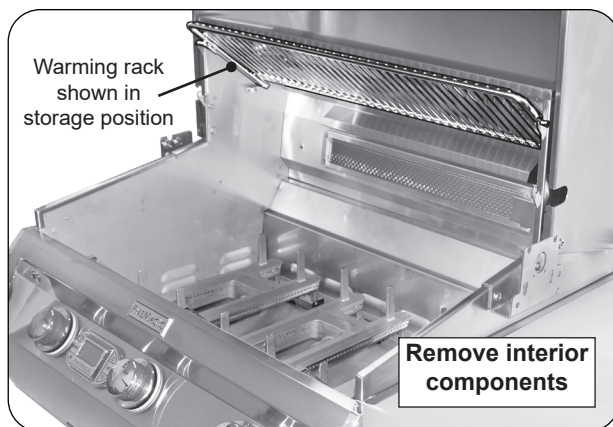

Fig. 36-1 Prepare grill for rotissing
1. Set the warming rack to storage position, remove the backburner cover and cooking grids (see Fig. 36-1).